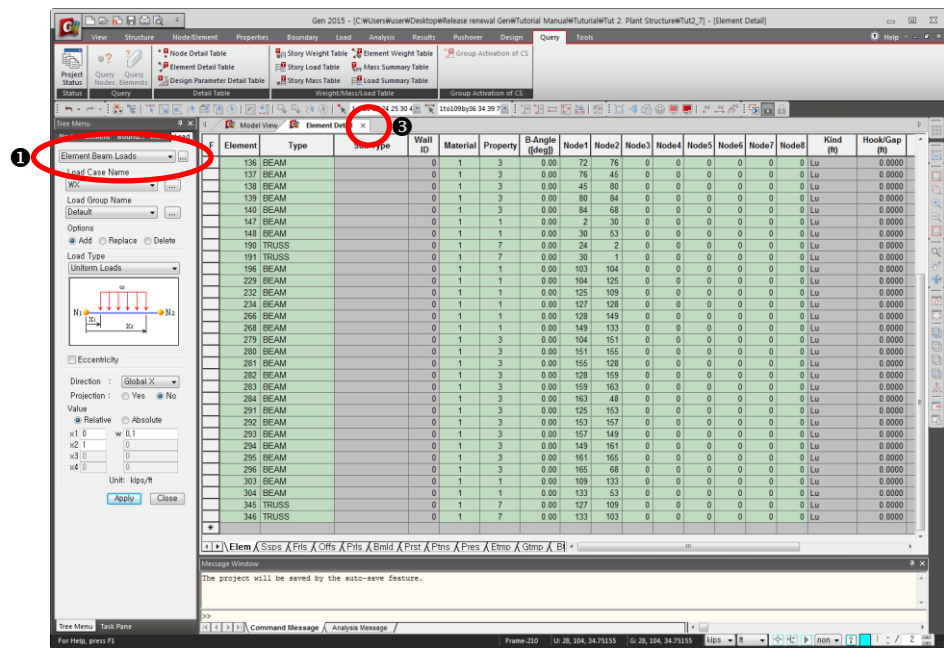

Figure 2.22 Element Detail Table
Click the button  on the right of the functions selection field (Fig.2.22–1) to confirm the loads applied to beam elements in Beam Loads Table.
3. Click  as shown in Fig.2.22–3.